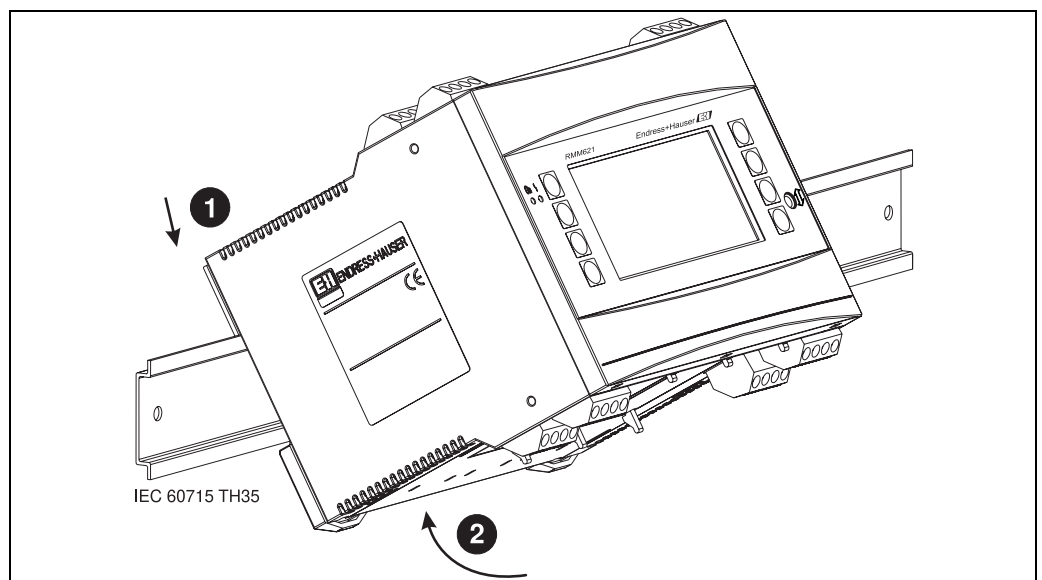

Fig. 2: Mounting device on top-hat rail
Snap the housing onto the top-hat rail by first hanging the device on the top-hat rail and then pressing it down gently until it engages (see Fig. 2, items 1 and 2).